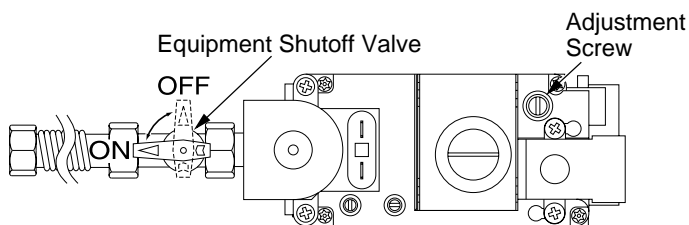

Figure 47 - Turning Equipment Shutoff Valve to the OFF Position
5. Turn equipment shutoff valve clockwise  to the OFF position (see Figure 47). Do not force.
6. Wait five (5) minutes to clear out any gas. Then smell for gas, including near the floor. If you smell gas, **STOP!** Follow "B" in the safety information above. If you don't smell gas, go to the next step.
- Turn the adjustment screw marked PILOT clockwise to decrease or counterclockwise to increase the flame to proper size (see Figure 47, page 24). Do not remove the adjustment screw.